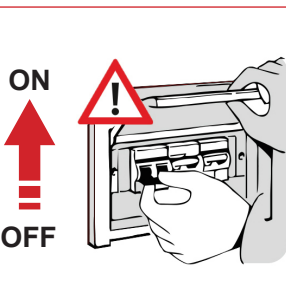

Fig. 10
- If present, set the protection magnetothermic switch located upstream of the power socket to the “ON” position (Fig. 10).